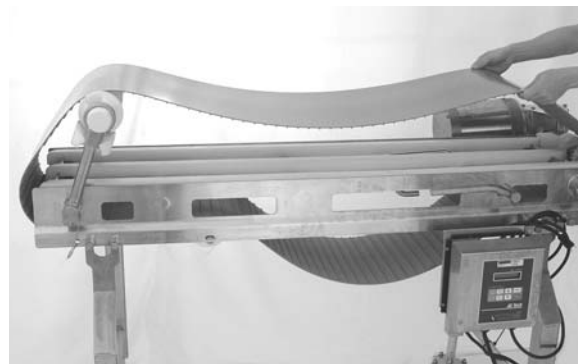

Figure 39
3. Lift up on the belt (**Figure 39**).